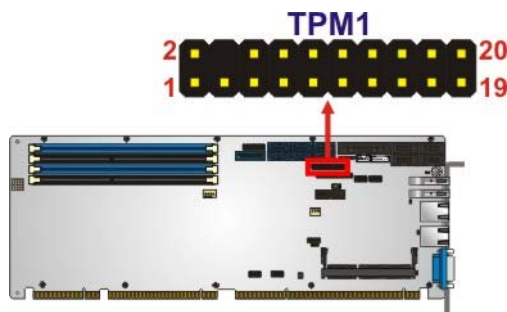

Figure 3-25: TPM Connector Location
- CN Location:** See **Figure 3-25**